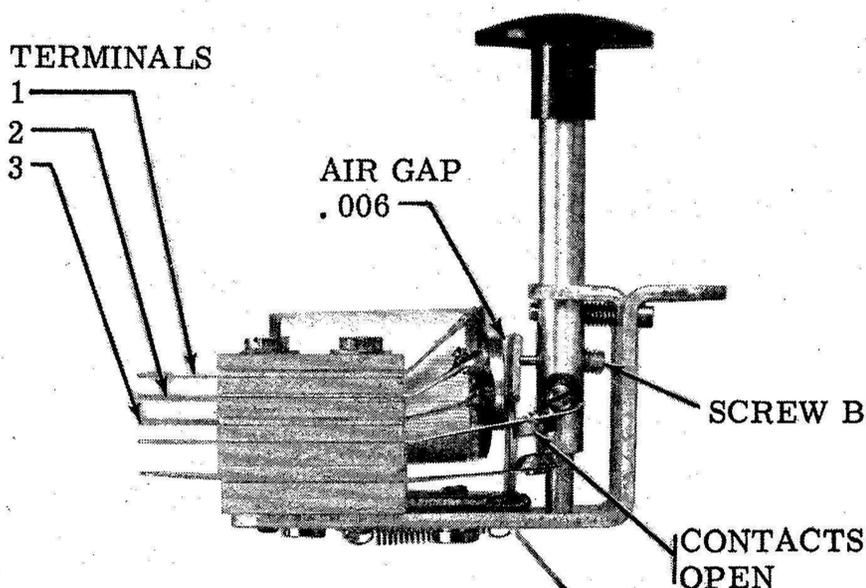

Figure 9. Relay in "Up" Position - Contacts Open
- Determine that the relay coils are not open by checking between terminals 1 and 3 for approximately 100 ohms resistance and terminals 2 and 3 for 0.5 ohms resistance. See figure 9. Terminals to be counted from top - down.
- With the relay up, check that the air gap is set to .006 inches by use of proper feeler gages. See figure 9. Air gap can be reset by adjusting lower screw "B". The glyptal sealing the adjusting screw should be softened with thinner before resetting. The screw should be resealed with glyptal after adjustment.